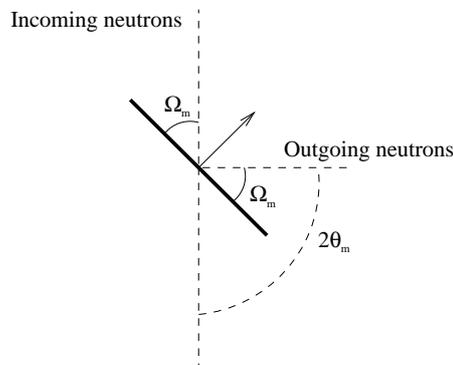

Figure 3: Illustration of the monochromator orientation
1. Keeping your current components, insert a Monochromator\_flat component (use mcdoc or the component manual to get the needed parameters) and a new set of PSD and L\_monitor after the monochromator. You should now add two new input parameters of your instrument, e.g. OMM (Omega Monochromator) and TTM (Two Theta Monochromator) for rotation of the monochromator and the remaining part of the instrument so that the orientation of monochromator is as portrayed in Figure 3. These two instrument input parameters should be added to the DEFINE line of the instrument (start of file). Remember to add an Arm() at the rotation point.